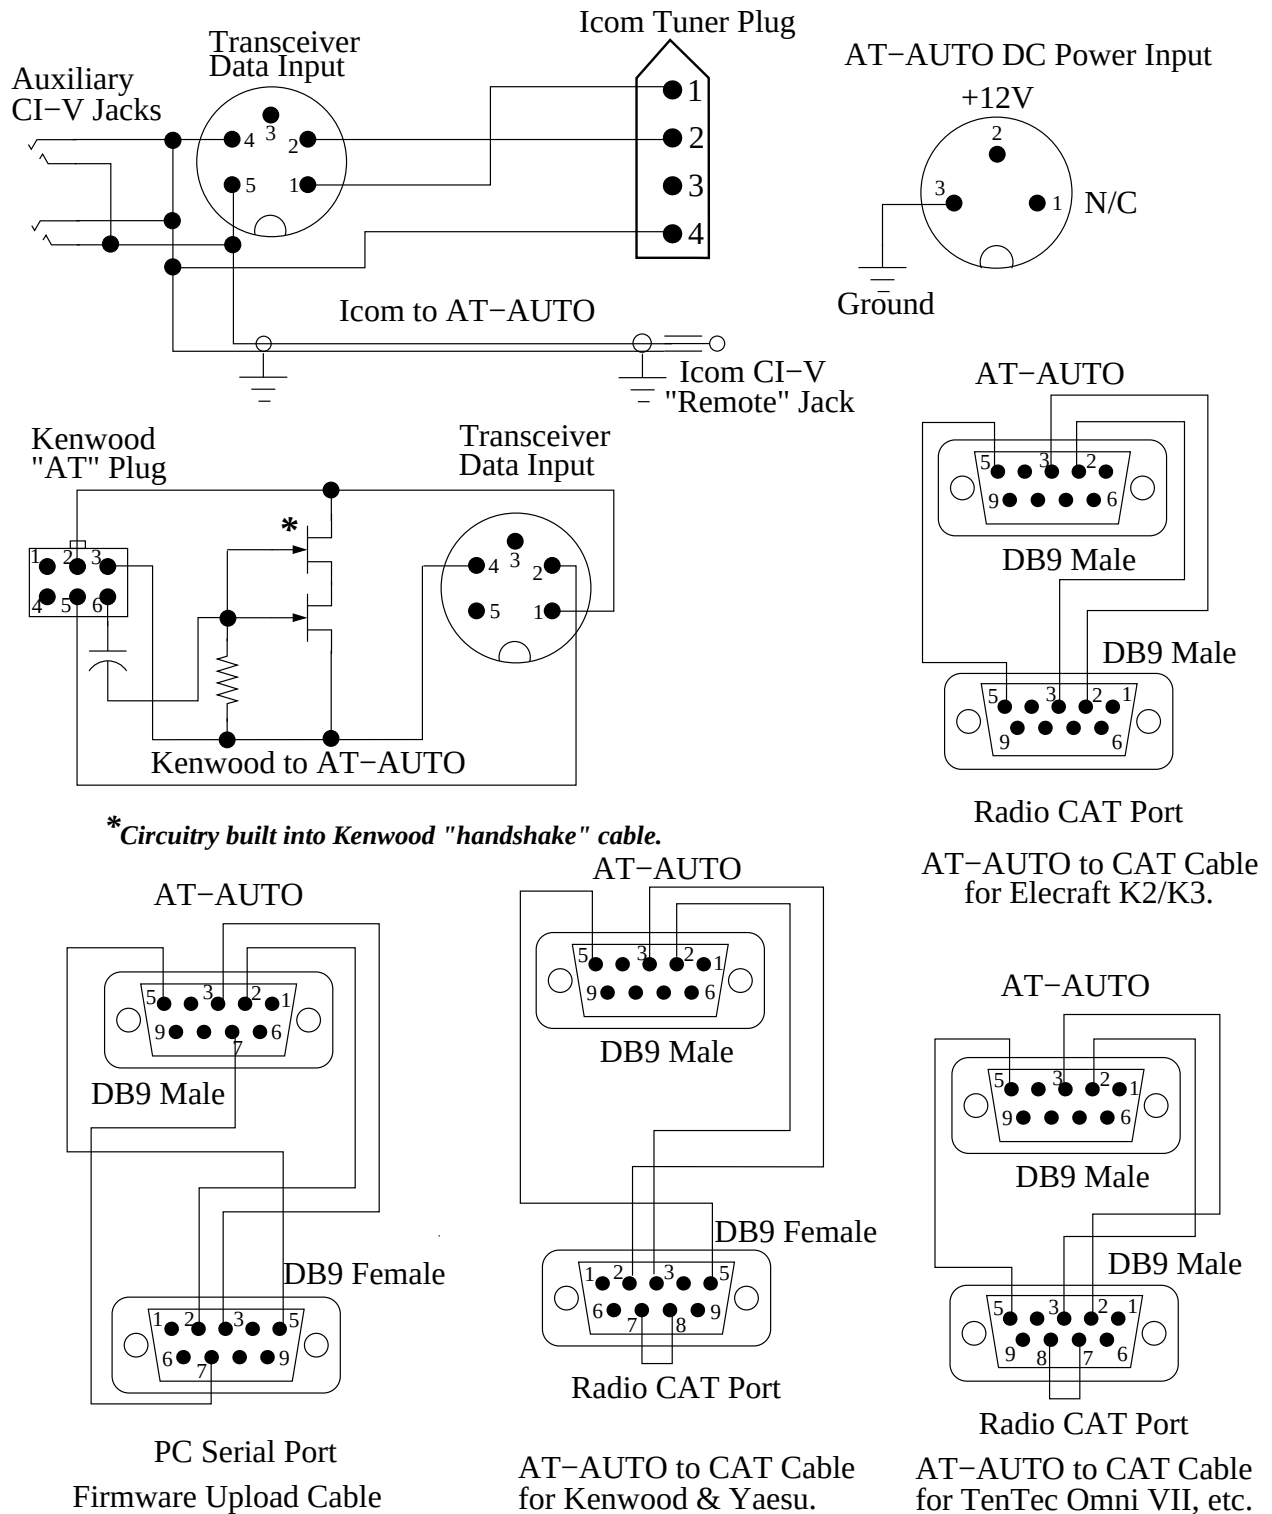

Figure 8.1: Interface Cable Diagrams
5. Connect your AT-AUTO_(tm) to your PC’s RS-232 serial port with the Kessler Engineering-supplied “Firmware Upload Cable” (See Figure 8.1 on page 69).
The AT-AUTO_(tm) is capable of controlling the low-power, constant carrier generation capability built into some Icom and Kenwood radios. This *External Tuner Handshake* requires connection of the AT-AUTO_(tm) with either the Icom's "tuner" interface or the Kenwood's "AT" interface. Do NOT attempt AT-AUTO_(tm) - radio interfacing via the "Data/Handshake" connector with non-Icom or non-Kenwood radios. Kenwood radios require additional external circuitry (built into the Kessler Engineering-supplied interface cable) in order for the handshake feature to operate. Figure 8.1 on page 69 illustrates the handshaking cables used for Icom and Kenwood radios.
Kessler Engineering supplies interface cables that are suitable for use with either Icom transceivers, most Kenwood, some Yaesu, several TenTec and Elecraft transceivers. The information supplied in this section is provided to enable AT-AUTO_(tm) owners to construct their own interface cables. Rear panel connector pinouts are provided in Table 8.1 on page 68, and Figure 8.1 (page 69) provides illustrations of the serial data interfacing cabling.